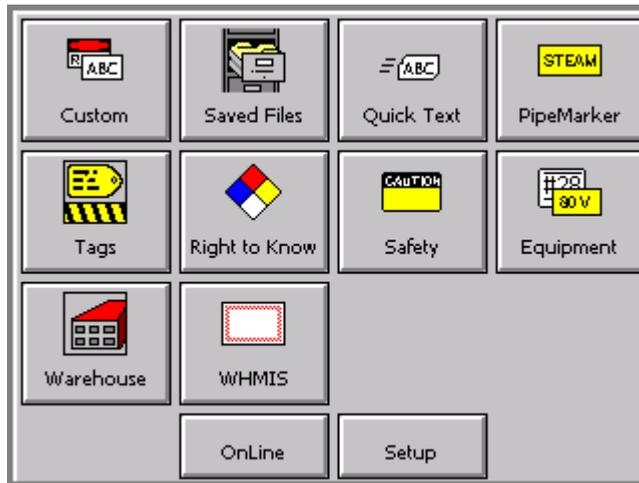

Figure 6-1. The Main Menu screen
QuickText helps you create plain text labels very quickly. When you choose **QuickText** on the **Main Menu** screen (Figure 6-1), all you have to do to create a label is enter your text.
1. Choose **QuickText** from the **Main Menu** screen (Figure 6-1).
The templates are organized in groups of similar designs, called applications, which are listed on the system's **Main Menu** screen (as seen in Figure 6-1 on page 6-2). With the exception of the Custom application and the QuickText application, each application contains one or more categories of pre-designed templates, and are referred to as *template-based applications*.